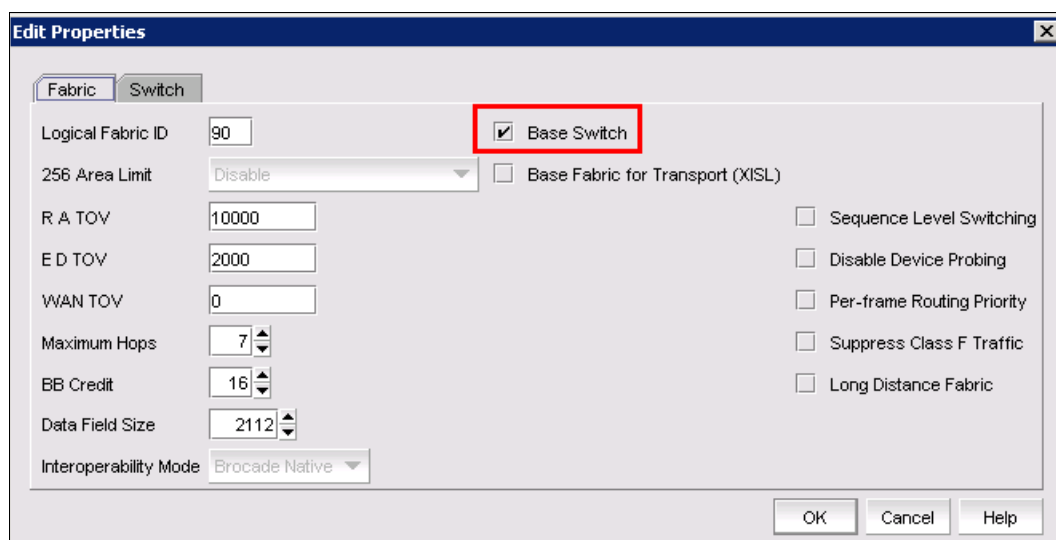

Figure 8-22 Edit Properties base unit
2. Select **Base Switch** and click **OK**, as shown in Figure 8-22.